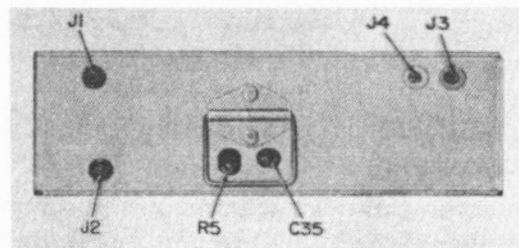
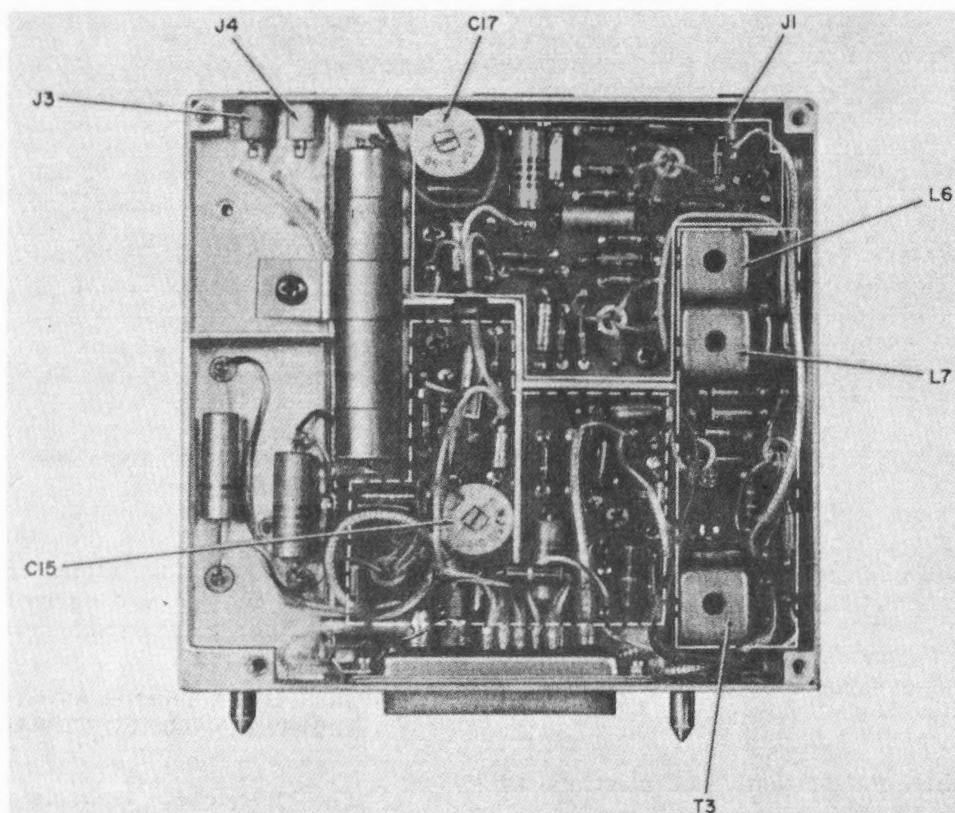

Figure 6-17. Amplifier-Modulator AM-3507/PRC-47 (A2), Top View, Location of Test Points and Adjustments
Figure 6-18. Amplifier-Modulator AM-3507/PRC-47 (A2), Side View
(4) Using the signal generator, apply an input signal of 498 kc to jack J3 (figure 6-17) on module A2.
(5) Adjust the level of the 498-kc signal so that the vtvm reads slightly higher than it would without the signal.
(6) On module A2, adjust capacitors C15 and C17, coils L6 and L7, and variable transformer T3 (figure 6-18) for a maximum reading on the vtvm.
(g) Connect the oscilloscope probe to jack J3 on Signal Data Translator CV-1377()/PRC-47 (A3) (figure 5-4) and adjust capacitor C35 and variable resistor R5 on module A2 (figure 6-17) for a minimum indication on the oscilloscope. Since these two controls are interactive, adjust first one and then the other until neither produces an appreciable decrease in oscilloscope indication.